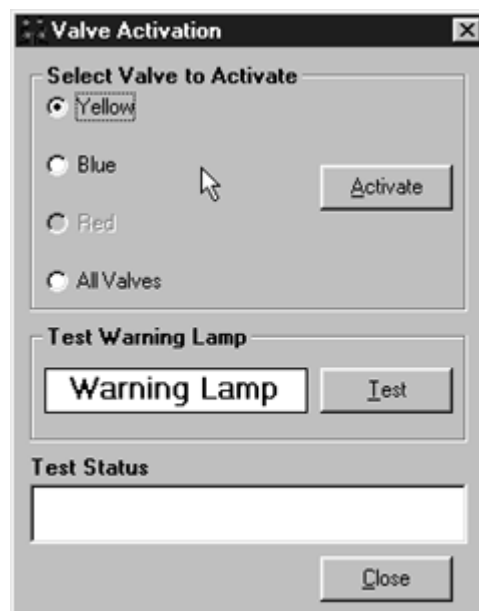

Figure 2-25: Valve Activation
4. At the **Trailer Main Screen**, click on **Component Test**, then select **Valves/Lamp** to display the **Valve Activation** Screen. The **Yellow** valve indicator will be highlighted. See Figure 2-25.